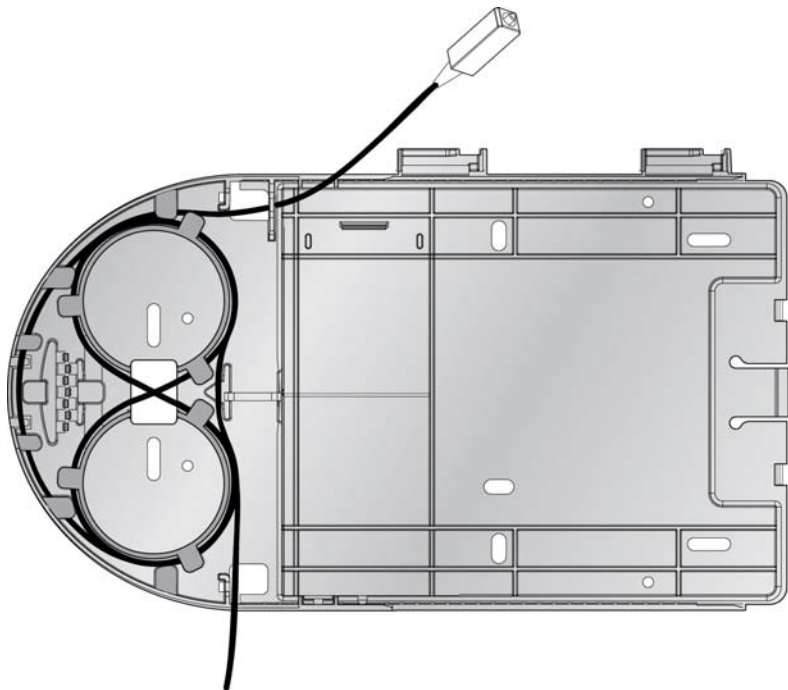

Figure 6: Completed fiber wrap configuration for iMG electronics.
4. Route the fiber along the outside curved wall, allowing for approximately 100mm to protrude beyond the tie-wrap point. (Figure 6)